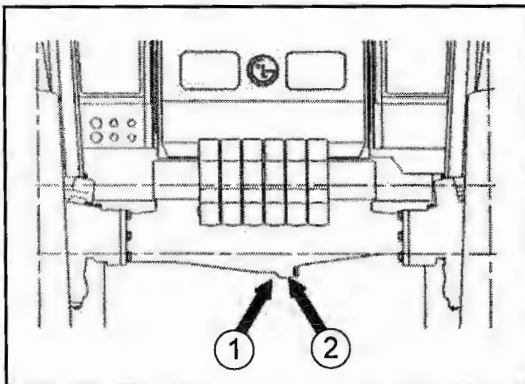

Fig. 36-1 - Front Axle Support (DTC Models)
Using a grease gun, apply all purpose grease in two lubricating nipples (1) and (2). (See Fig. 36-1).